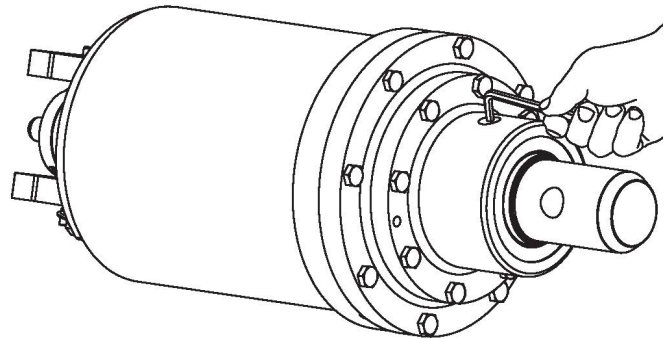

Figure 10
1. Lay the drive unit flat on the ground with the oil fill plug facing up. Using an 8 mm Allen key, remove the plug. See Figure 10.